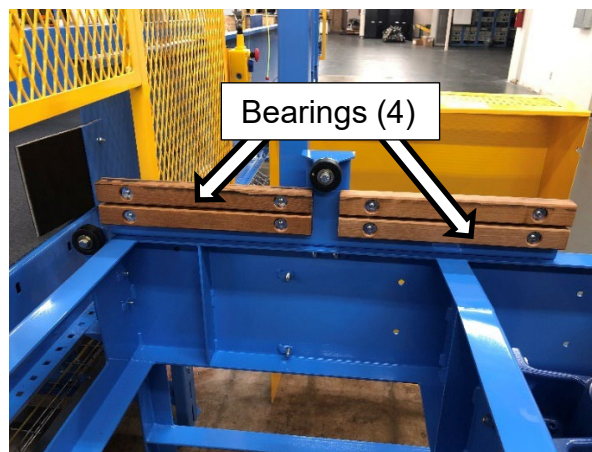

Figure 8. Pusher Frame Assembly Wood Bearings Example – Blade Removed
6. Verify the vertical and horizontal clearances at the wood bearings (PSN 3915-19-000-0159) (Figure 8).
There are four wood bearings and two wheels on each side of the pusher assembly (Figure 8).